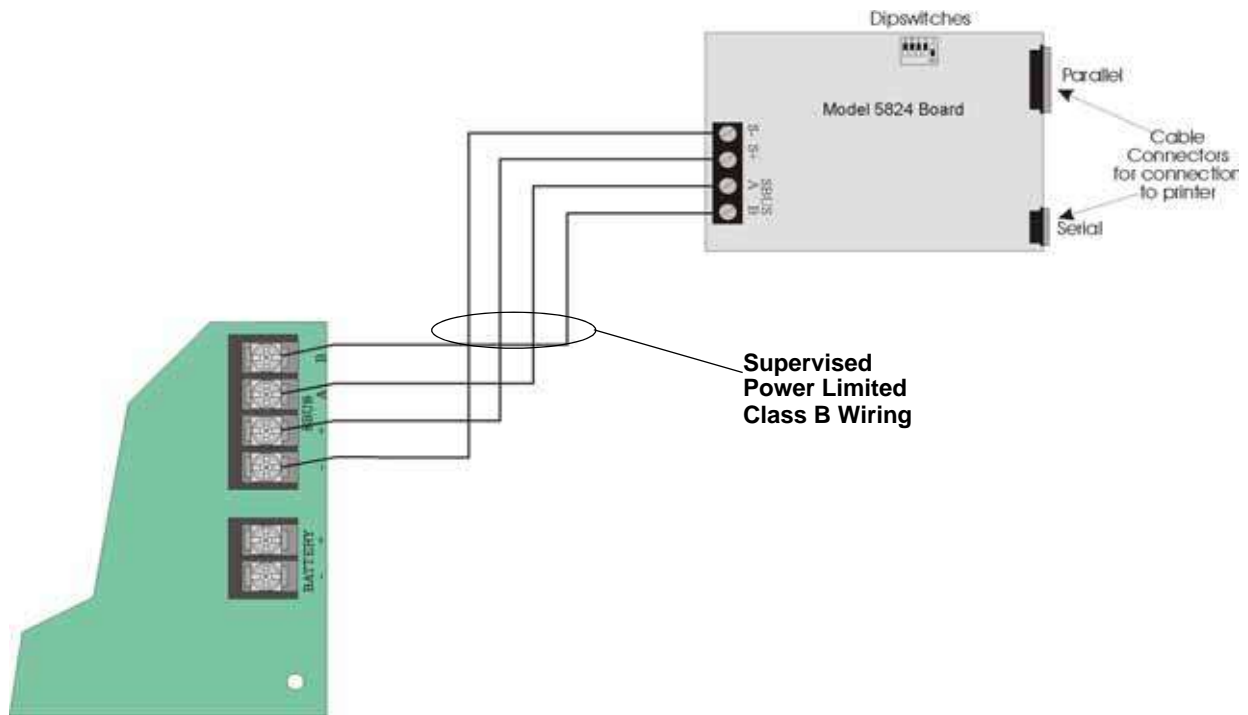

Figure 4-20 5824 Connection to the Panel
2. Connect the 5824 to the panel as shown in Figure 4-20.